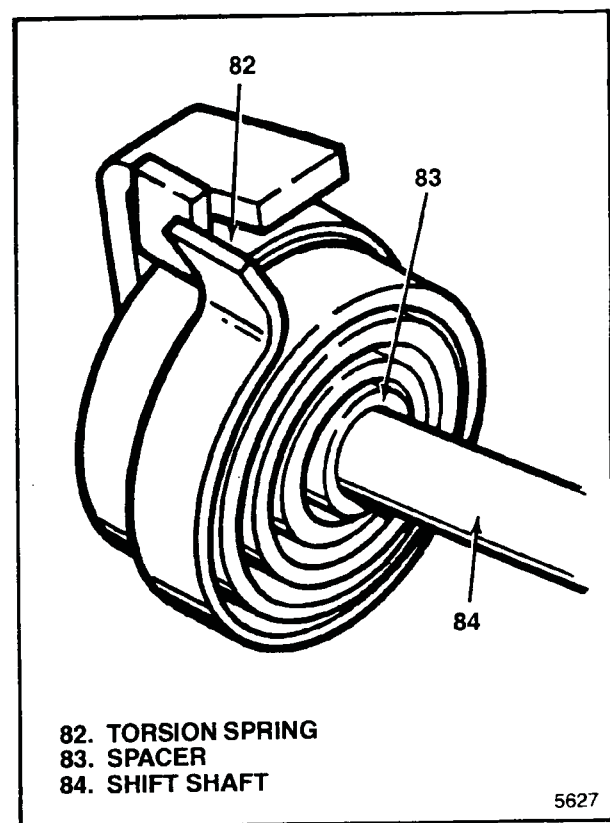

Figure 5-7. Installing First Spring End
- a. Insert spacer (83) in torsion spring (82) ID and install over free end of shift shaft (84).
- b. Slide torsion spring (82) and spacer (83) on shift shaft (84) up to drive tang and position first spring end to left (viewed from free end of shaft) of drive tang (see figure 5-7).